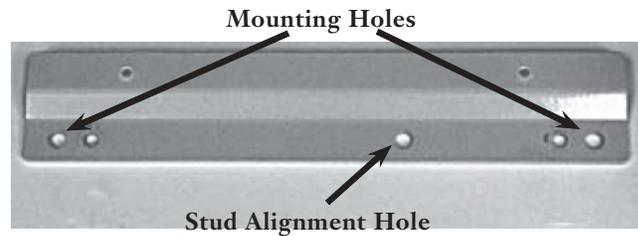

Figure 3
**5.5 Wall Mounting Bracket Method (Indoor units)** — Using the template provided, mark screw locations. Position the wall mounting bracket on the template, mounting holes facing down (Figure 3), and drive in the screws. Hang the unit on the bracket and slide the unit until it locks into position. Secure the unit with the lower mounting screw. If securing the mounting bracket to the same stud used by the lower mounting screw, use the middle hole on the bracket.